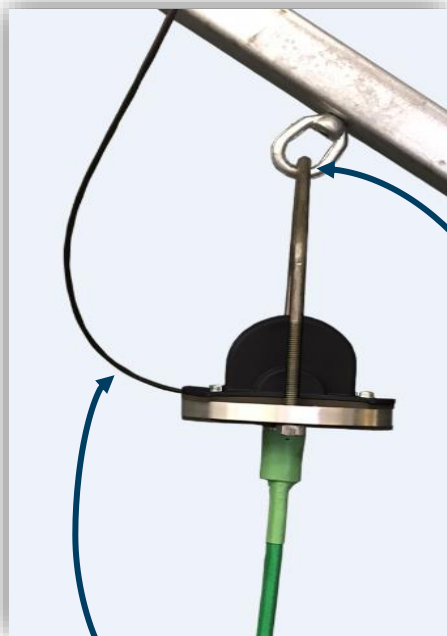

Figure 3
6. Install one 3/8" nylon locking nut on each side of the custom V-Bolt. Tighten a min. of 4 treads past the end of the V-Bolt and until a level PDR/SDR Cable Head assembly is obtained. (*Figure 3*) Be sure to not over tighten the bolts as to where the PDR/SDR Cable Head Assembly could come into contact with the beam or truss under normal conditions, as this could damage the assembly.